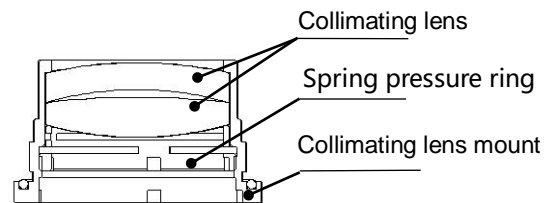

Fig 6.4 - Collimating lens installation diagram
- As shown in figure 6.4, reassemble the collimating lens components in sequence. Note that the spring pressure ring is tightened properly and re-screwed into the collimating component.